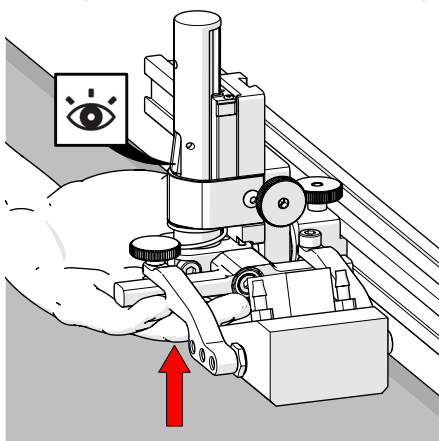
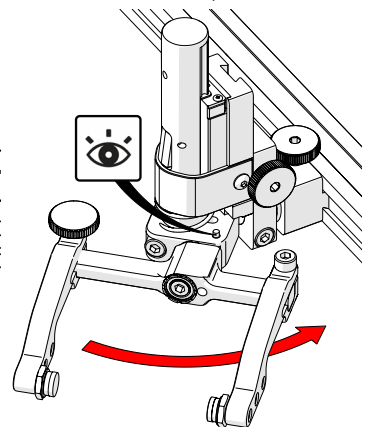

Fig. 132 - Latch probe holder
Fig. 138 - Stop post locates 90°
1. Ensure the probe holder is in the latched, upper position. Lift the probe holder until the latch is fully exposed and snaps out to lock (Fig. 132).
1. Ensure the probe holder is in latched, upper position (*Fig. 132*).
To return the transverse adjustment to neutral (90°). The probe holder must be in the latched, upper position (*Fig. 132*). Rotate the yoke until the stop post contacts the base of the probe holder (*Fig. 138*). Then tighten the transverse adjustment screw.
1. Ensure the probe holder is in the latched, upper position (*Fig. 132*).
1. Ensure the probe holder is in the latched, upper position (Fig. 132).